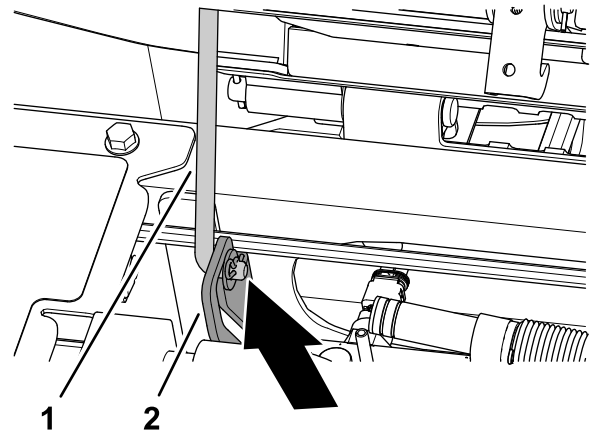

Figure 98
3. Ensure that the forward prop rod seats in the slot detent of the rod-guide plate (Figure 98).